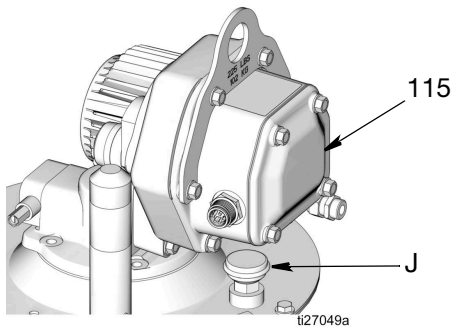

FIG. 51
NOTE: When the pump is correctly installed, the breather (J) will be below the control box (115), as shown in FIG. 51.